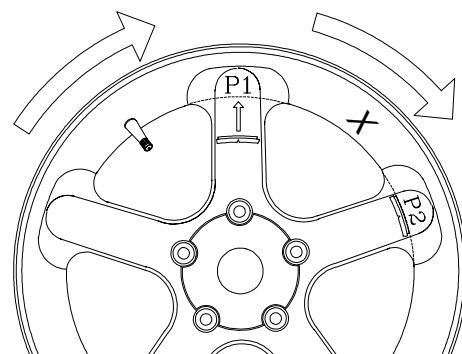

Figure 36
9. The display will read “**P -2**” on its left window and the balance weight amount in right window. Place the weight amount displayed at “position 2” behind the spoke, then rotate the wheel to locate position 1. See Figure 36.